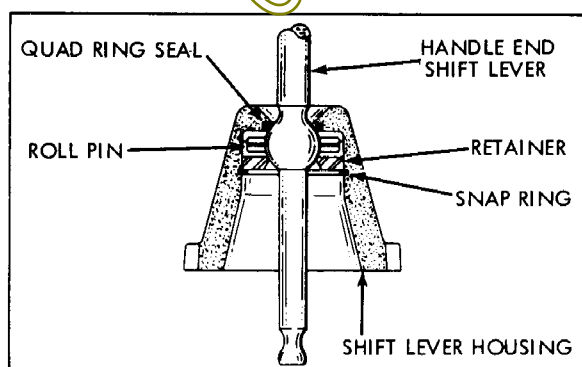

Figure 3-2
- b. Use the proper compressing type of tool for removing the snap ring. Loosen the vise and disassembly the pieces (Fig. 3-2)
- c. Remove the shift lever from the shift lever housing. Examine the roll pin in the ball of the shift lever, (Fig. 3-2) if bent or worn, replace. When inserting a new roll pin in the ball, position so that equal lengths protrude from both sides of the ball.
- d. Oil leakage past the point where the shift lever enters the shift lever housing will require replacement of the quad ring seal in the shift lever housing. (Fig. 3-2)